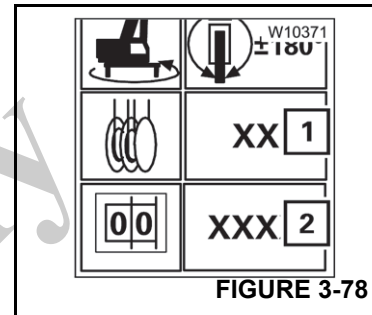

FIGURE 3-78
When entering the components, the corresponding RCL code (2) (Figure 3-78) is displayed at the same time.